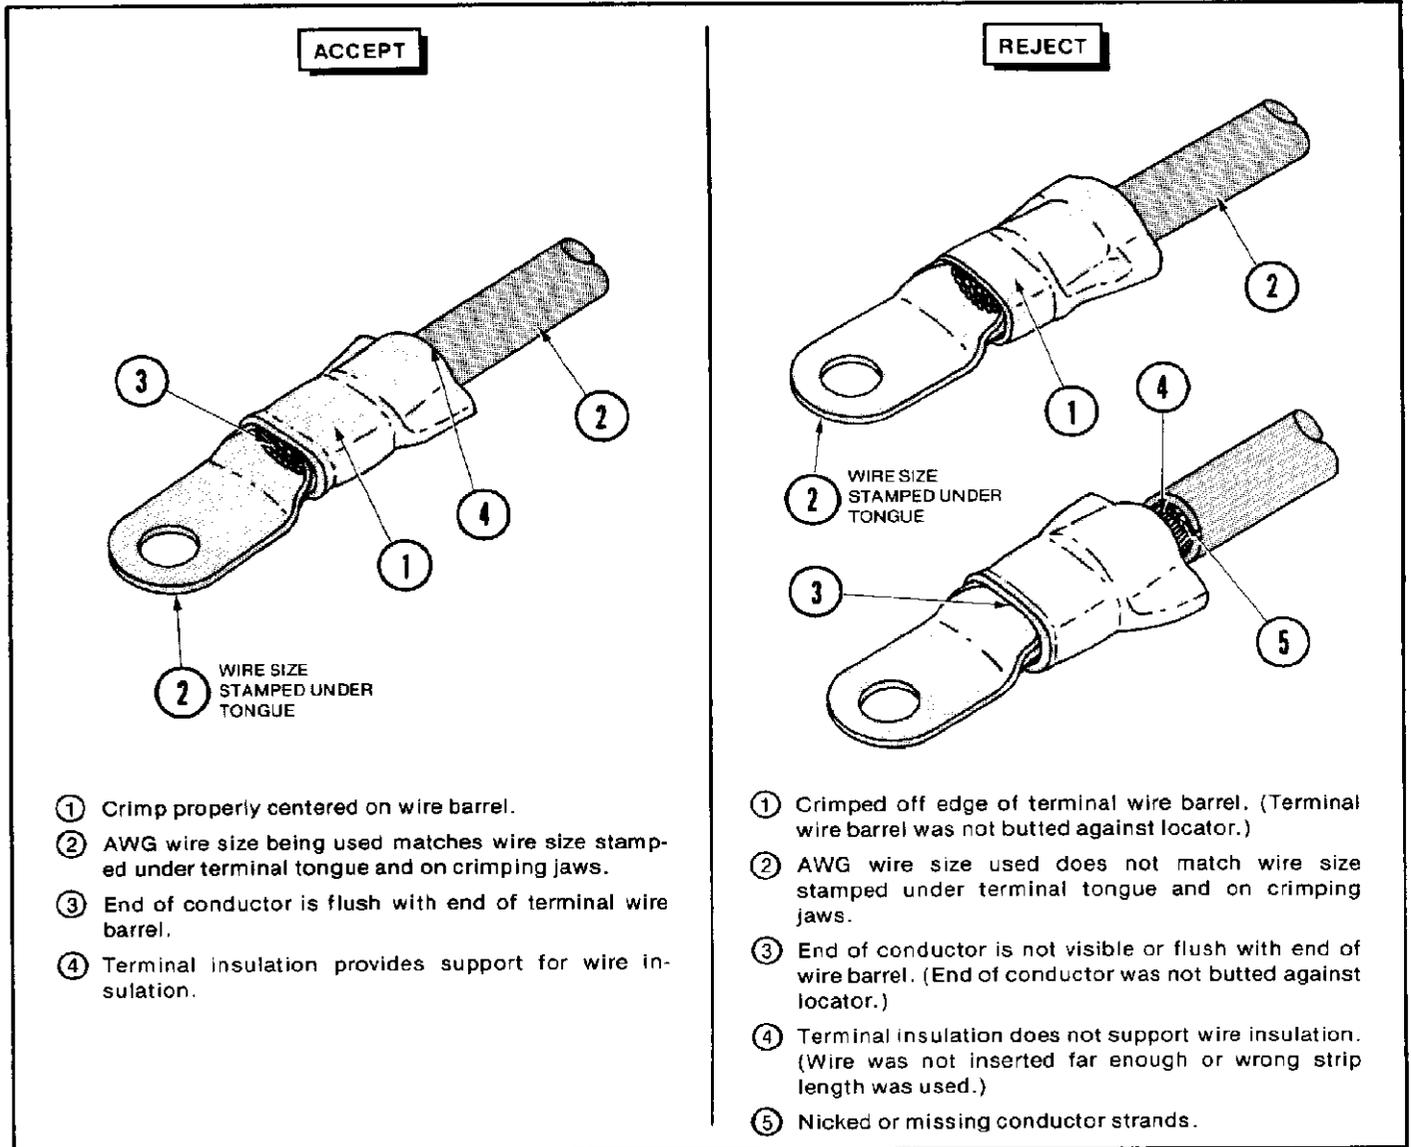

Figure 4
- Refer to section 3 and Figure 4 for crimp inspection.
Inspect crimped terminals by checking the features described in Figure 4.